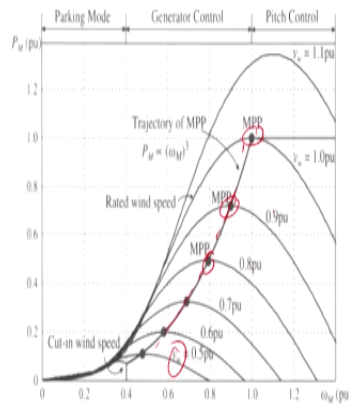

Fig.4: Wind turbine power-speed characteristics and maximum power point (MPP) operation
- Fig. 4 shows the typical characteristics of a wind turbine operating at different wind speeds, where  $P_m$  and  $\omega_m$  are the mechanical power and speed of the turbine, respectively.
The main goal is to maximize the wind power capture at different wind speed, which can be achieved by adjusting the turbine speed in such a way that the optimal tip speed the ratio is maintained, so that is something you required to ensure and that is the control. Figure 4 shows the typical characteristics of the wind turbine operating at different wind speed where  $P_m$  and  $\omega_m$  are the mechanical power and speed of the turbine respectively.
Now for a given speed, each power curve has a maximum power point, you can refer, so particular wind speed for this point, this point, this point and this is the wind speed, it is 0.5 per unit, 0.6 per unit, 0.7 per unit, 0.8 per unit, 0.9 per unit and something like this. The trajectory of the MPPs the maximum power point represents the power curve which can be described by the figure has been shown in figure 4 and that is  $P_m$  is proportional to omega cube.